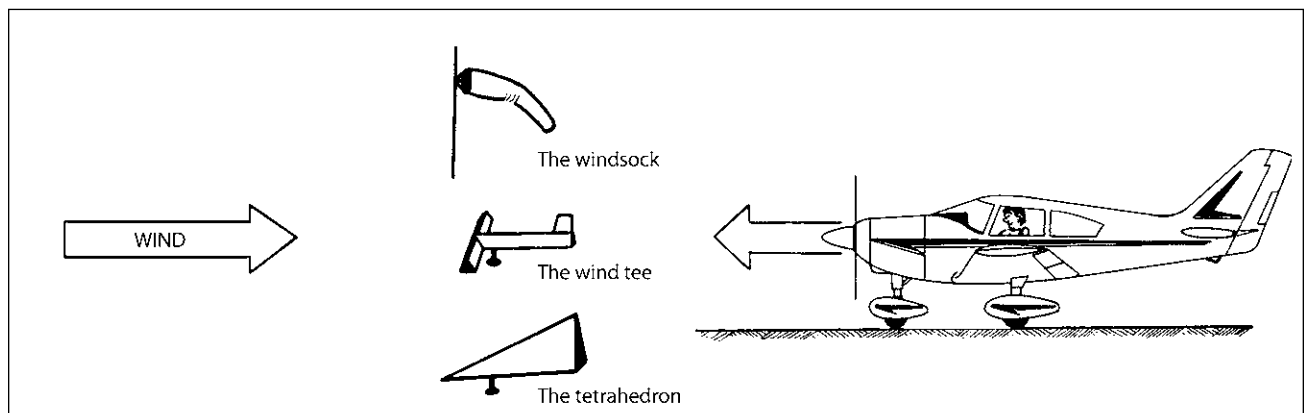

Figure 6-1. Airport wind indicators.
Get in the habit of checking the wind indicators before getting into the plane so that you'll know which runway is in use. There are three main types of wind indicators (Figure 6-1): (1) the windsock, a cloth sleeve that has the advantage of telling both wind direction and velocity; (2) the wind tee, a free-swinging T-shaped marker